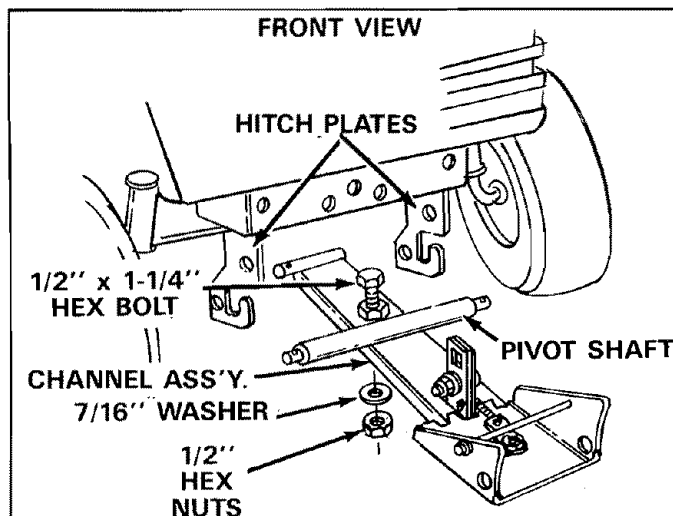

FIGURE 7
- Assemble one 1/2" x 1-1/4" hex bolt into slotted hole in channel assembly, (see figure 7) with one 1/2" hex nut and one 7/16" standard washer on top side and one 1/2" hex nut and 1-7/16" standard washer under channel. **Do not tighten at this time.**
- Assemble channel assembly to front of tractor shown in figure 7 and 8.